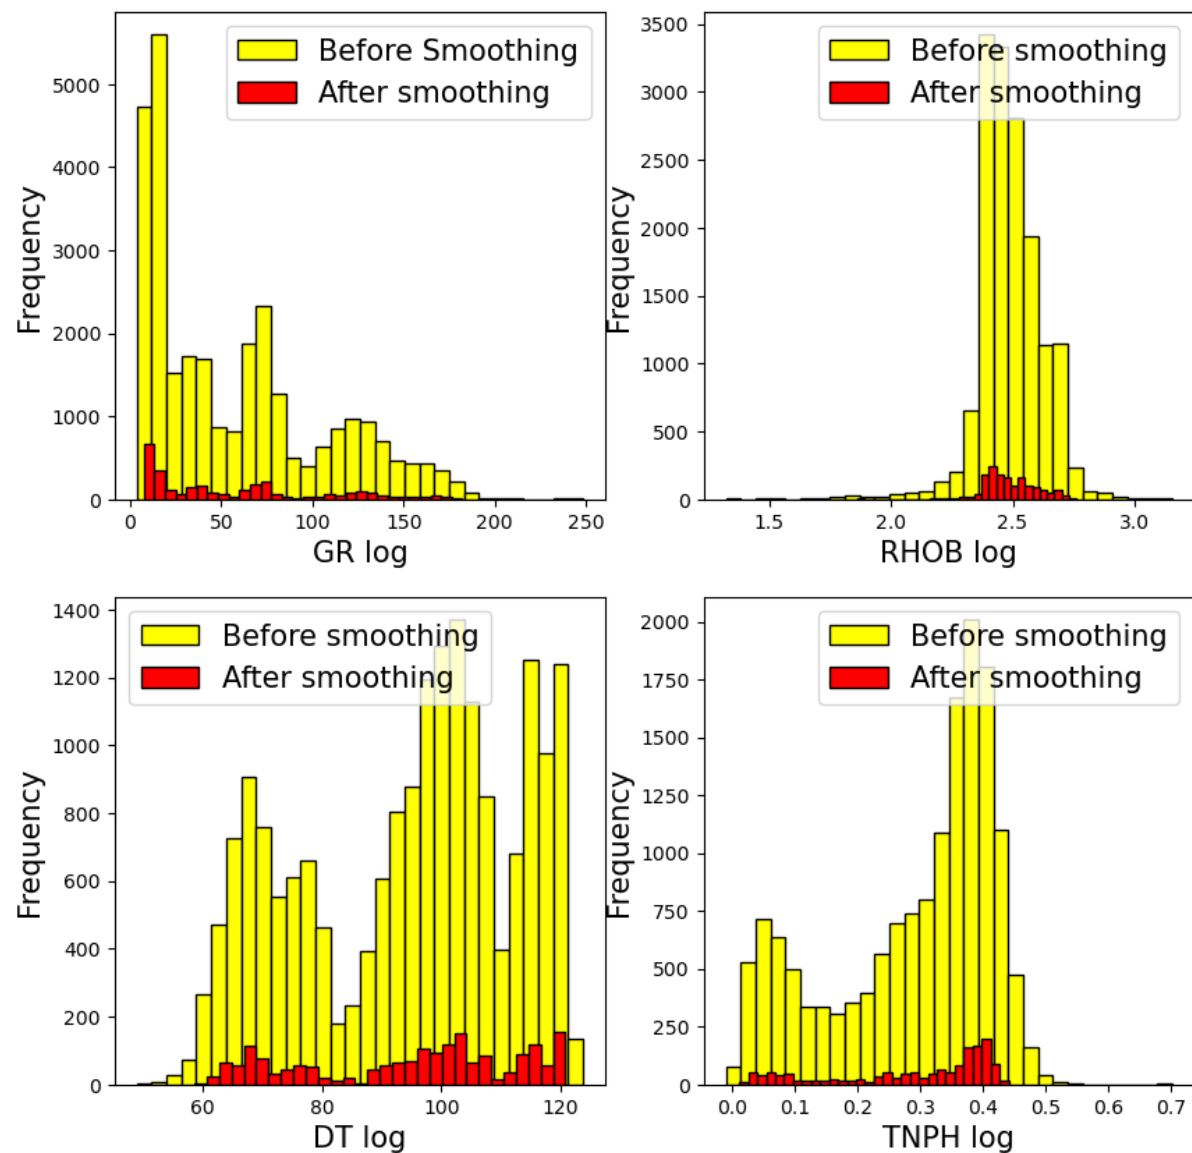

Figure 9: Before and after scenario of data smoothing
- To see the figure 9, I can say that after smoothing data having no outliers which are identified previously.